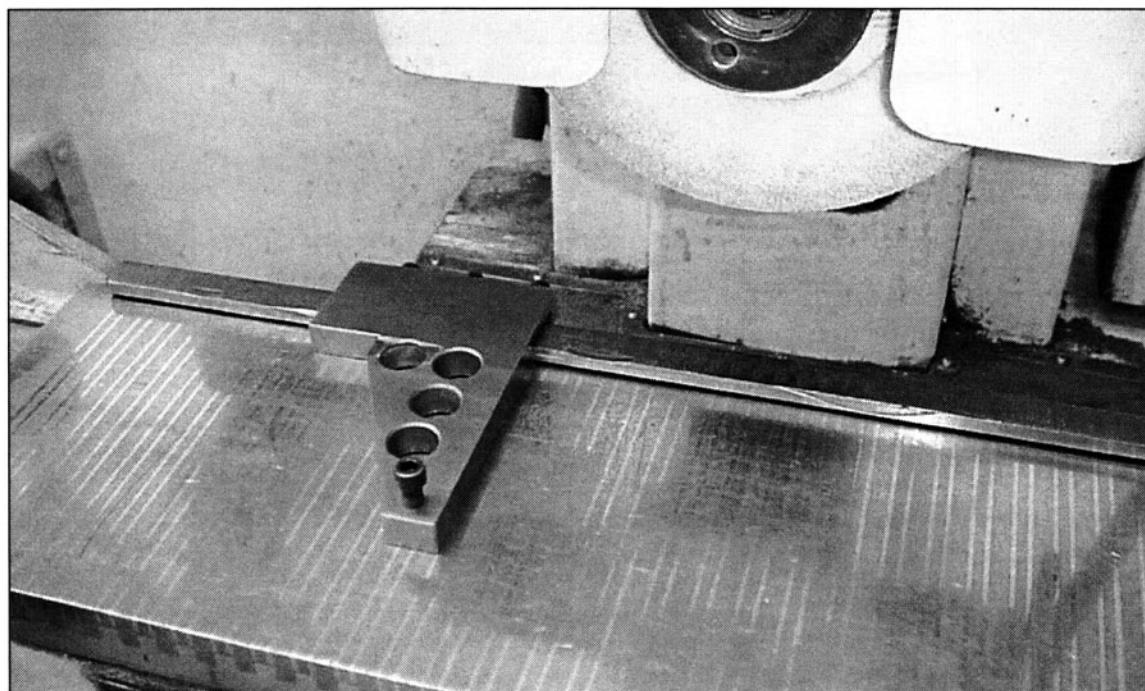

FIGURE 14-16 A "fence" that clamps to the back rail allows work to be precisely located on a magnetic chuck.
23. *Use a fence to accurately locate work on a magnetic chuck. (See Fig. 14-16)*